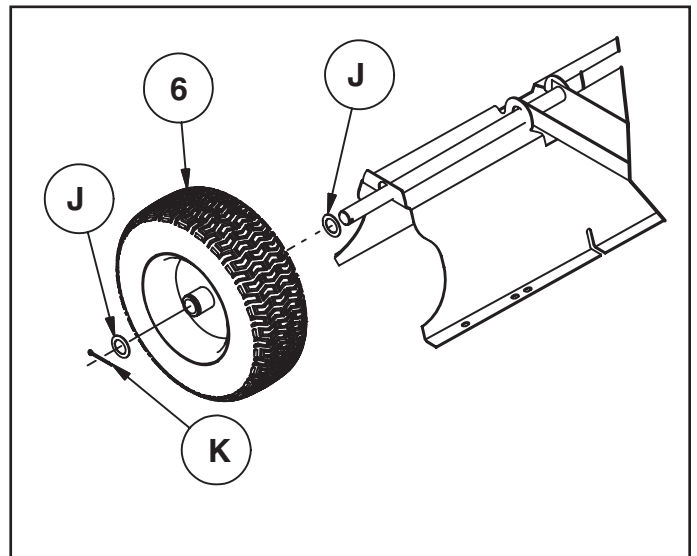

FIGURE 5
STEP 5: (SEE FIGURE 5)
- Assemble a washer (J), a wheel (6) with the valve stem facing out, and another washer (J) onto the axle. Assemble a cotter pin (K) to the axle. Repeat for other wheel.